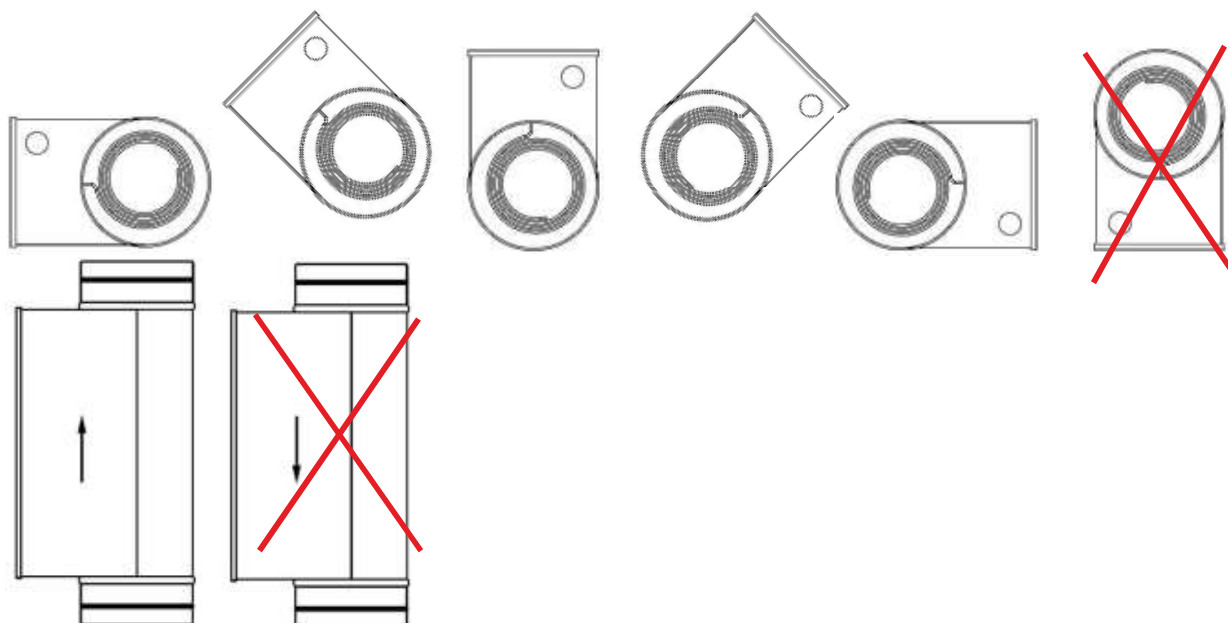

Fig. 3
Heater can be installed in any position (*see Fig. 3 on page 7*) except electrical connection box downward. If heater is installed in such way that can be accidental contact with heating elements, protective grill must be installed.
1) Heater can be installed horizontally in any position except electrical connection box downward and vertically (only if the air flow direction upwards) (*see Fig. 3 on page 7*).